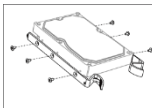

Figure 2-4 Fix
- Step 1 Fix mounting ears to HDD with screws, Fig. 2-4.